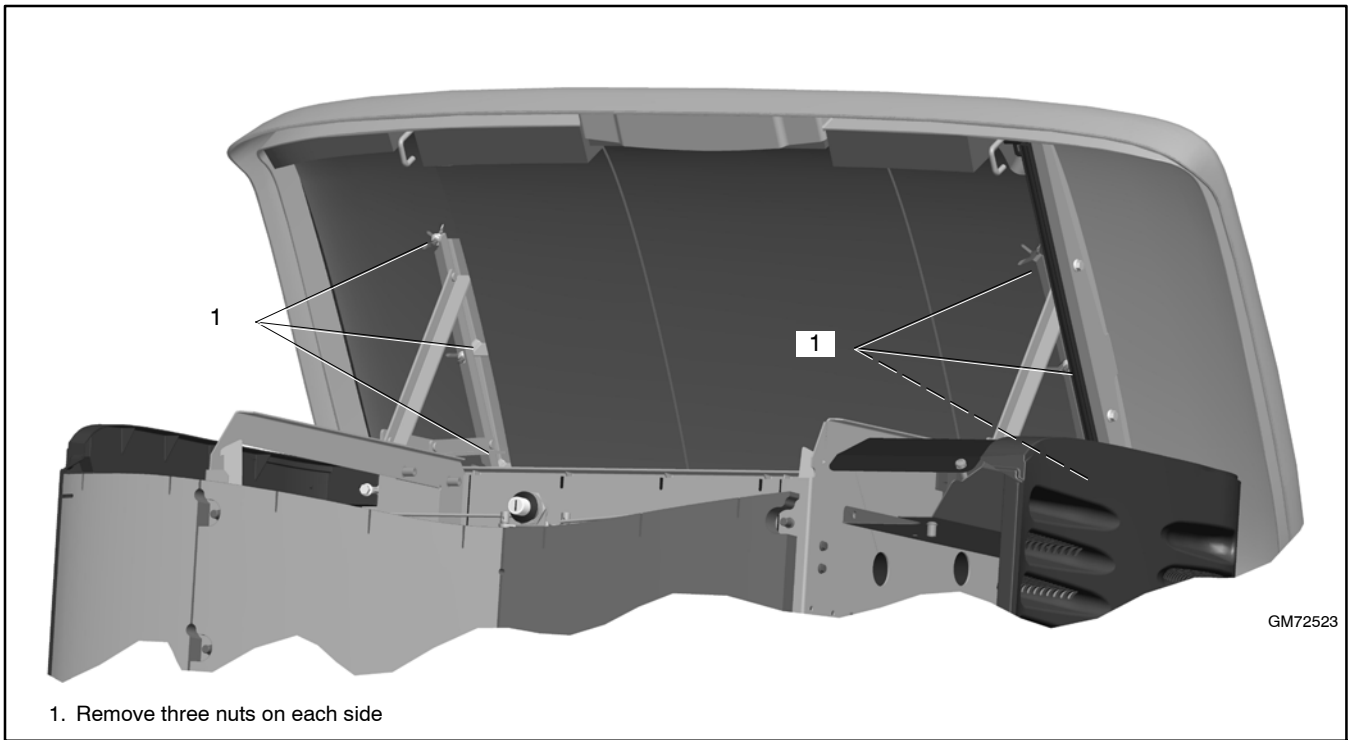

Figure 7-2 Roof Removal
3. Remove 6 nuts and remove the roof. See Figure 7-2.